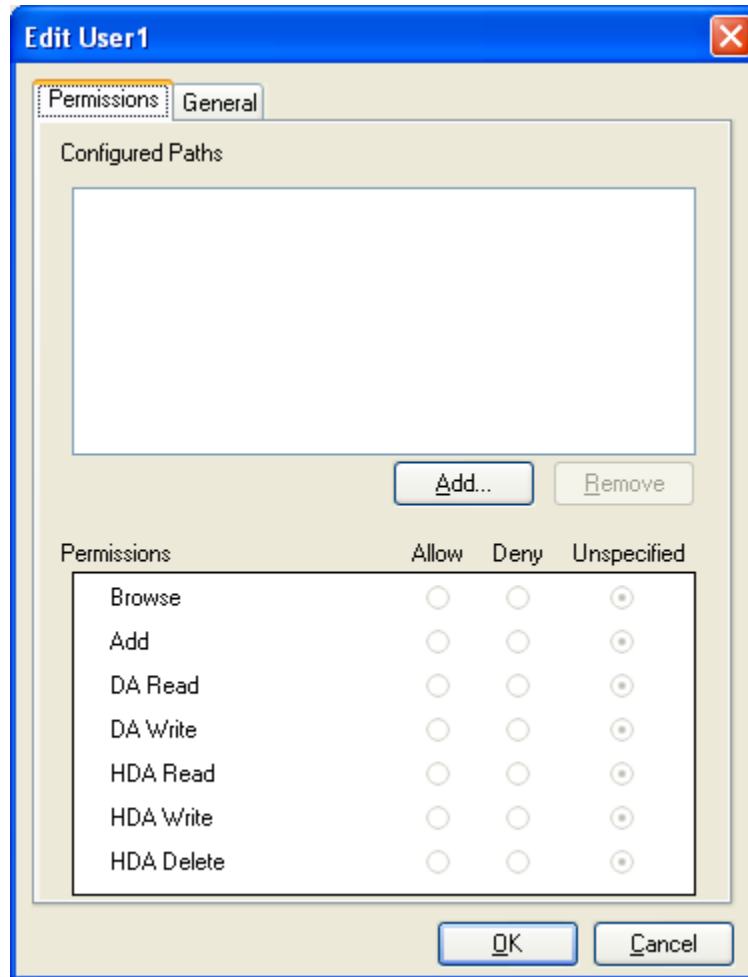

Figure 65 - Edit <Username> Window (Permissions Tab)
6. The **Edit <Username>** window (Figure 65) appears. Follow the instructions in the **Edit User** section for adding permissions.
2. The **Edit <Username>** window (Figure 65) appears.